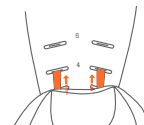

Fig. 48a
1. Insert pillow attachment straps through the appropriate shoulder belt position (Fig. 48a).